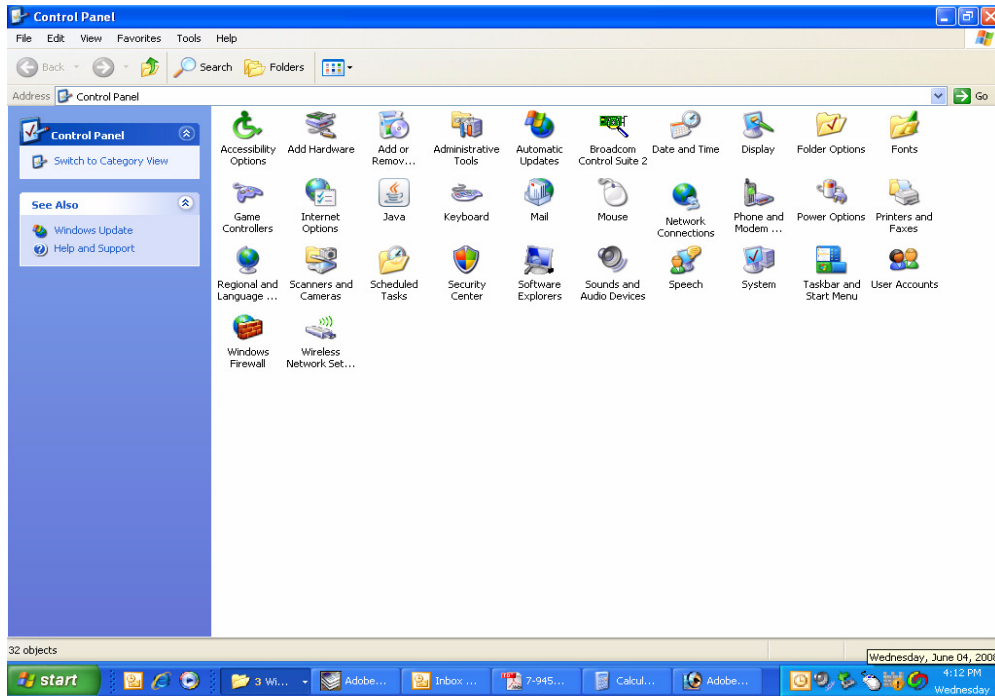

Figure B2: Select the "Network Connections" icon.
- 3) From the "Control Panel" icon selections double click on the "Network Connections" icon. Refer to **Figure B2**.